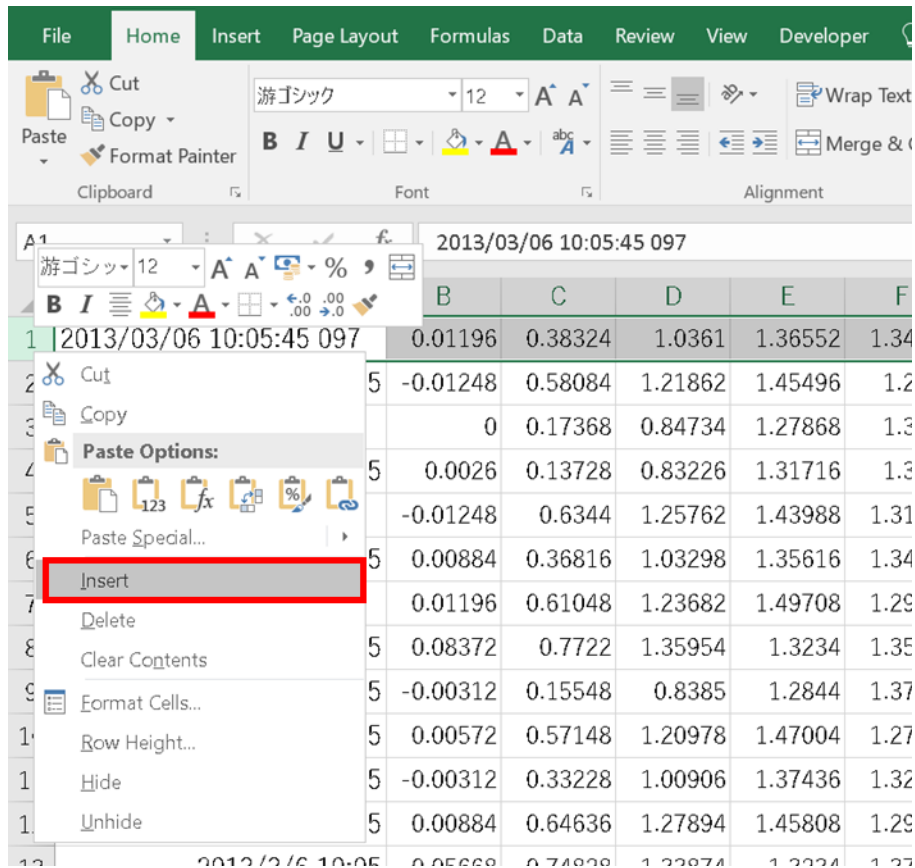

Figure 25. Inserting a new row.
- 8) Select row 1. Right-click and select “Insert” (Figure 25).